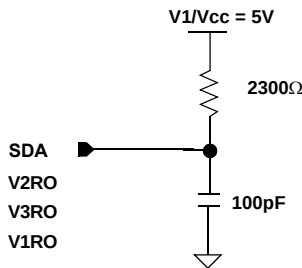

FIGURE 25. EQUIVALENT AC CIRCUIT
| Output Load                    | See Figure 25              |
2. See Figure 25 for equivalent load.